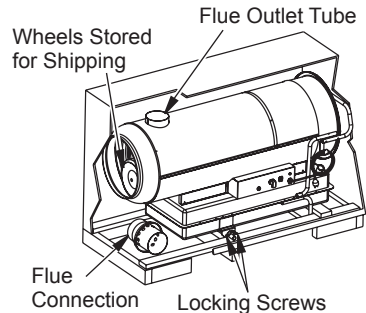

Figure 2 - Removing 280-IF from Carton
- Unscrew the locking screws on hub locking bar (see Figure 2).